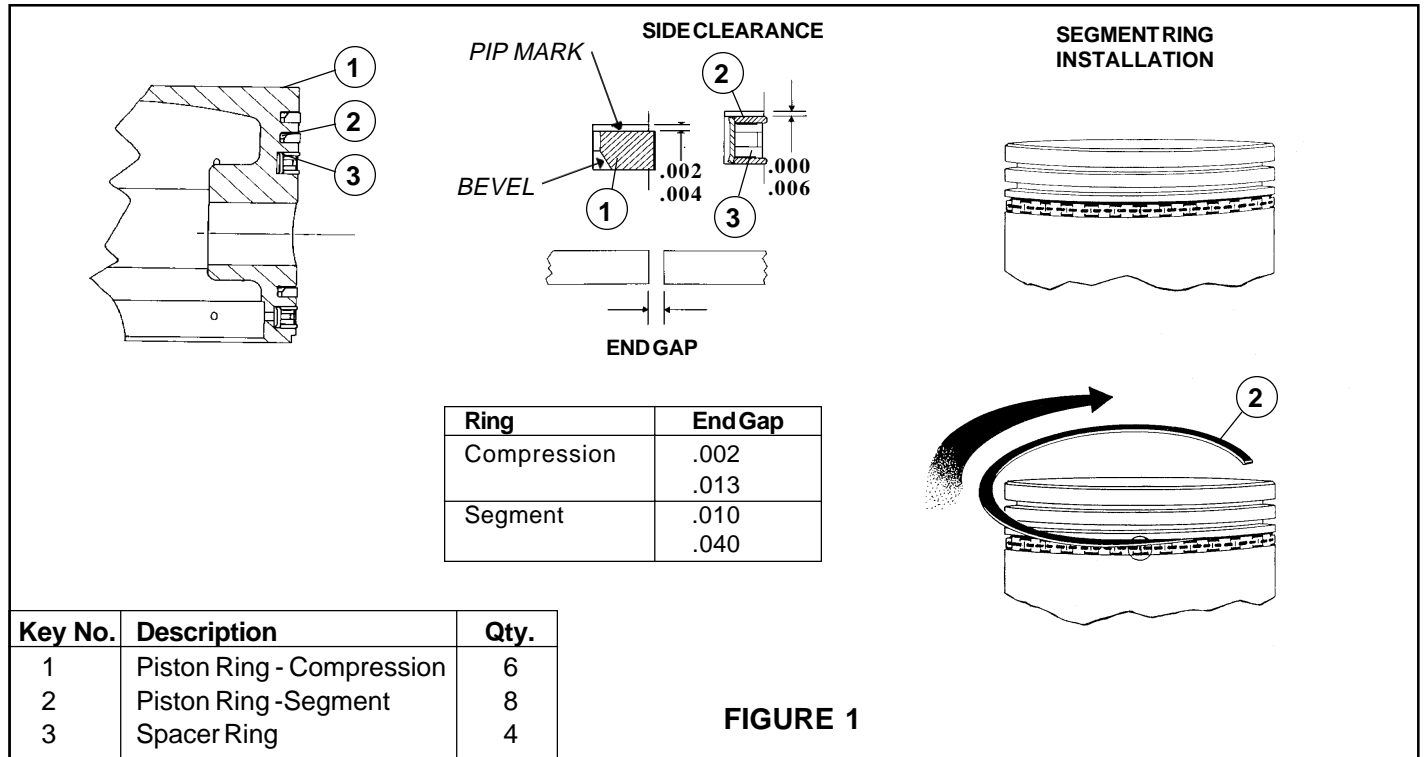

FIGURE 1
1. Check each ring end gap in the cylinder bore before installation. Install ring in top of cylinder bore and using the piston, push the ring to midpoint of the cylinder bore and check ring gap. (Refer to figure 1.) If the end gaps are incorrect verify the ring kit is the correct repair size. If the repair size is correct then the cylinder bore is worn beyond specification and the compressor should be replaced.
- B. Install the compression rings(1) in the proper grooves with the bevel down and the "pip" mark (if any) toward the top of the piston. (Refer to figure 1.)
3. Check the ring side clearance of each ring in the piston ring groove. (Refer to figure 1.) If the side clearance is too large, the piston ring groove is worn beyond specifications and the piston must be replaced.